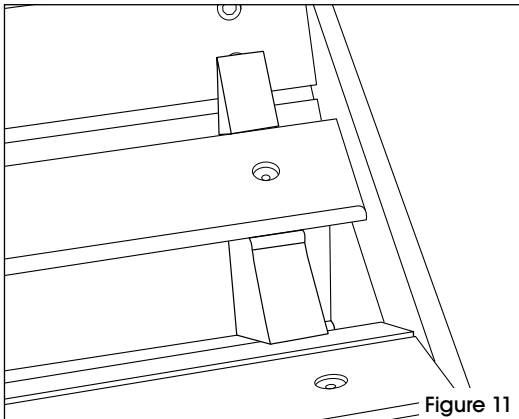

Figure 11
15. With the receptacles on their side, place three of the remaining slats on the connector in the designated slots. You can use a long level or similar flat piece to properly align the tops of the slats. (See Figure 11)